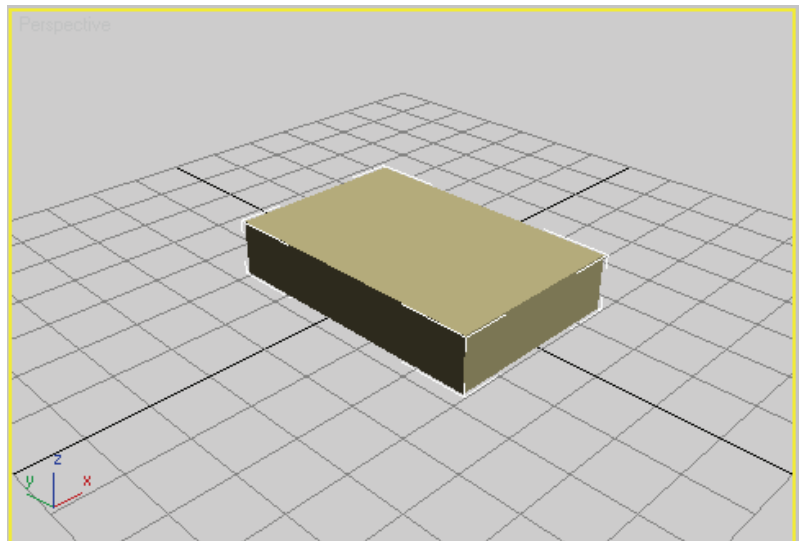

Figure 3–51
4. Initially you can use the Parameters rollout in the Create panel to edit the values. You can also use the Modify panel to edit the values. Set the *Length* to **4'2"**, *Width* to **2'9"**, and *Height* to **0'10"** and press <Enter>. In the Perspective viewport, the box should look similar to that shown in Figure 3–51.